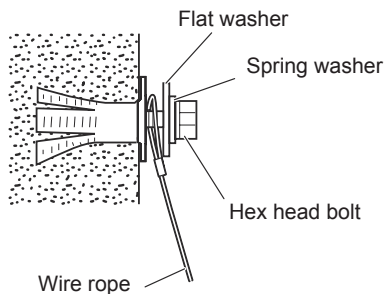

Fig.3
- 2) Pass the commercially available hex head bolt (M10) through the commercially available spring washer (M10) and flat washer (M10), and the loop at the end of the wire rope, and then tighten it to the anchor. (Fig.3)